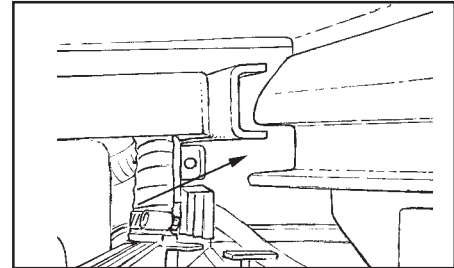

Figure 27
3. Align the mounting rails of the machine with the channels on the brush head unit (see figure 27).